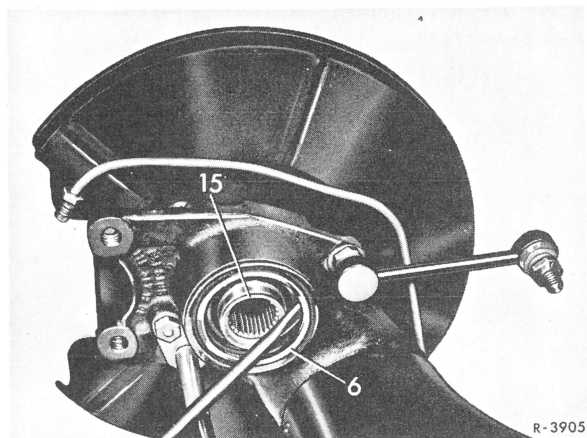

Fig. 6
**6** Remove seal running ring and inner sealing ring from wheel carrier with screw driver (Fig. 6).